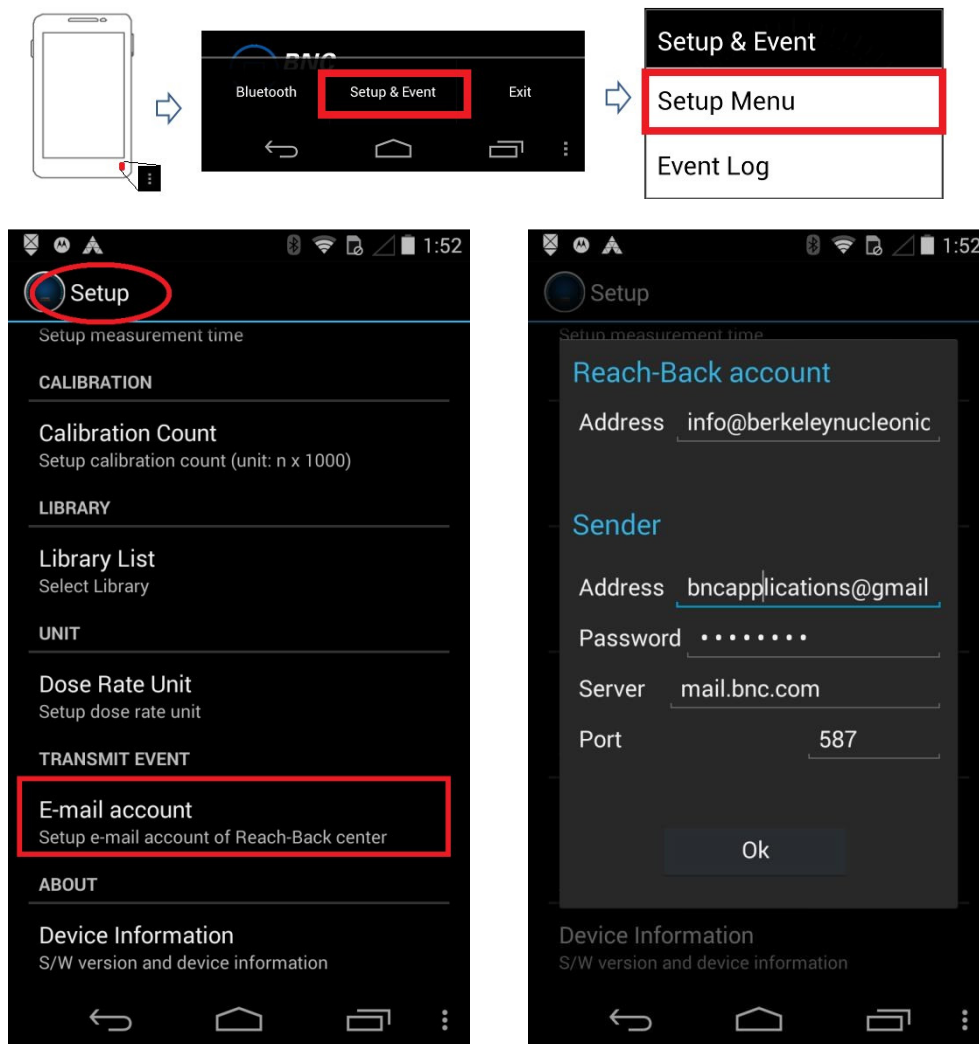

Figure 4.32. Email setup example for wireless data transmission
- a. Open the Setup menu (Figure 4.32, top)
- b. Scroll to TRANSMIT EVENT and select **E-mail account** (Figure 4.32, lower left)
- c. Enter the recipient's address under Reach-Back account (Figure 4.32, lower right)
- d. Enter the sender's address under Sender (Figure 4.32, lower right)